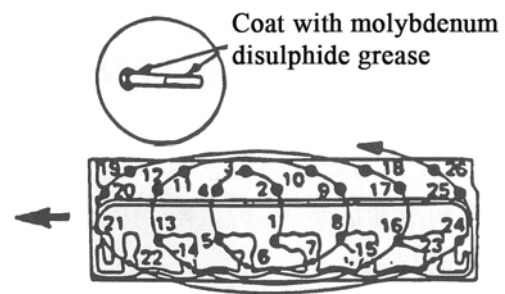

Fig 1.8
- (1) According to the order shown in Fig 1.8, tighten the engine cylinder head bolts with 68Nm torque one by one;
- (2) Increase the tightening torque to 93Nm and tighten the bolts one by one;
- (3) Then turn the bolts 90°, and screw down.